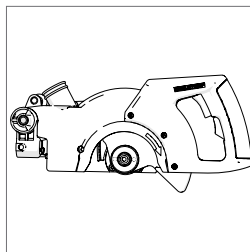

Fig. 1c
- The Cutting Head in the locked down position. **(Fig. 1c)**